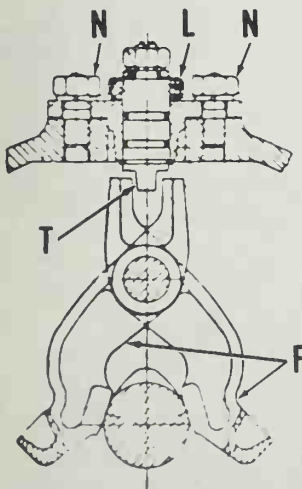
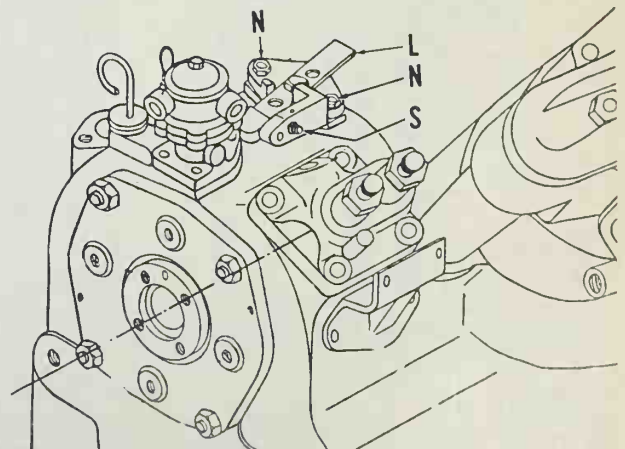

Fig. F2-5—Cross-sectional view of compression release on twin-cylinder models.
Fig. F2-6—View showing location of compression release on twin-cylinder models.
When the compression release lever (L—Fig. F2-5 and F2-6) on twin-cylinder models is turned, tangs (T—Fig. F2-5) on spindle force cam followers (F) to open exhaust valves on Model 71A437 or intake valves on Model 95A437. To adjust compression release, loosen nuts (N—Fig. F2-5 and F2-6), then move lever (L) until resistance is felt indicating spindle tangs are contacting cam followers. Retighten nuts (N). Turn adjusting screw (S—Fig. F2-6) so exhaust valves on Model 71A437 or intake valves on Model 95A437 are opened 1.0 mm when compression release lever is operated.